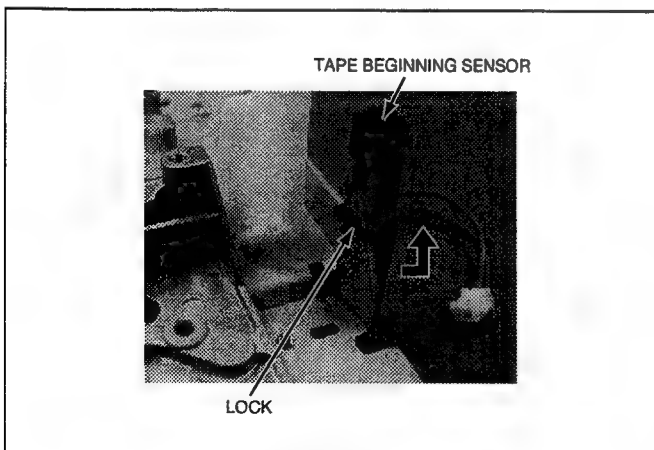

Fig. M-34
- Fig. M-34 Unlock the locking portion and remove the Tape Beginning Sensor.